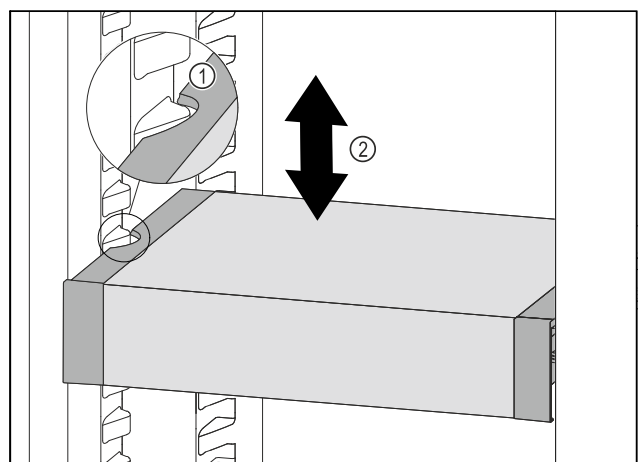

Fig. 200
- Pull VarioSafe forwards until the recesses in the side of the VarioSafe are at the level of the support rib in the refrigerator compartment. Fig. 200 (1)
- Move VarioSafe up or down in the refrigerator compartment until the desired height is reached. Fig. 200 (2)